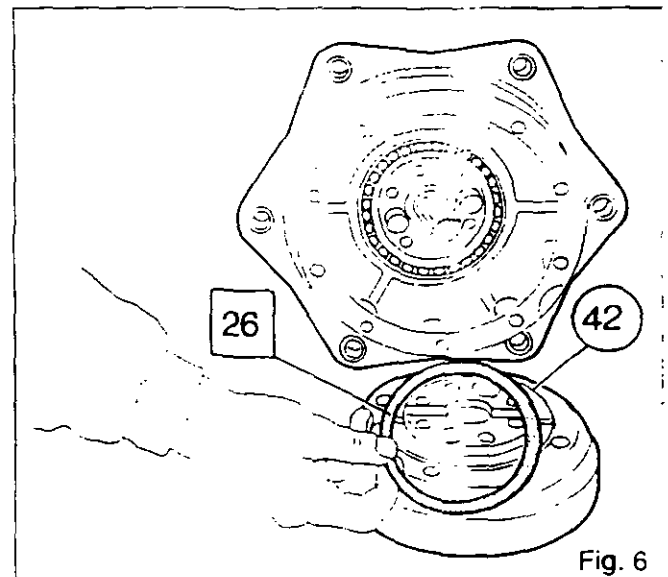
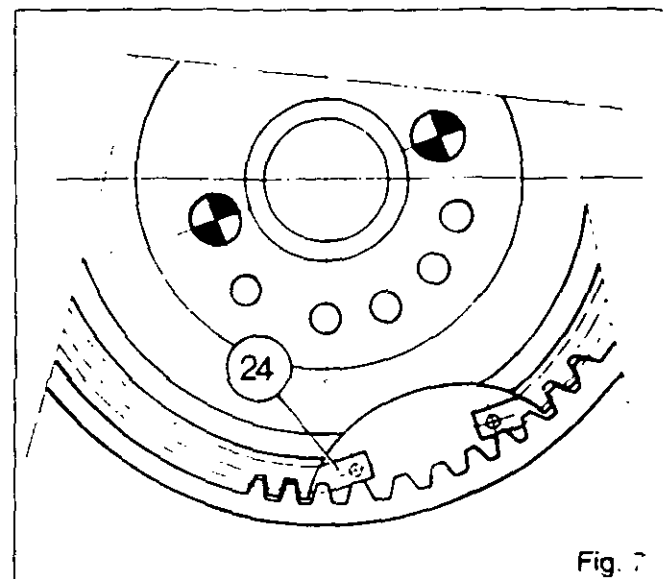

Fig. 6
Fig. 7
- 40. Fit the shims [26] (Fig. 6) chosen in operation 39 on the ring gear carrier (42) with bearing grease. Fit the assembled ring gear carrier (42), ring gear (44) and shims [26], with the two ends of the circlip (24) towards the bottom (Fig. 7).